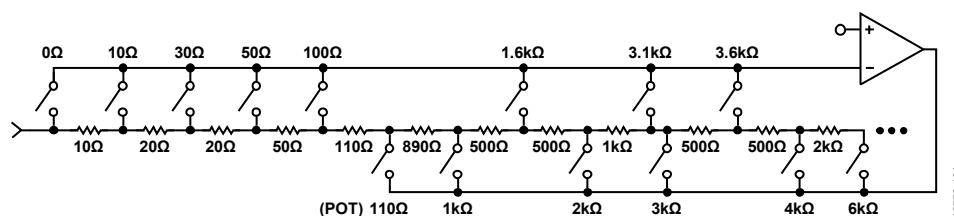
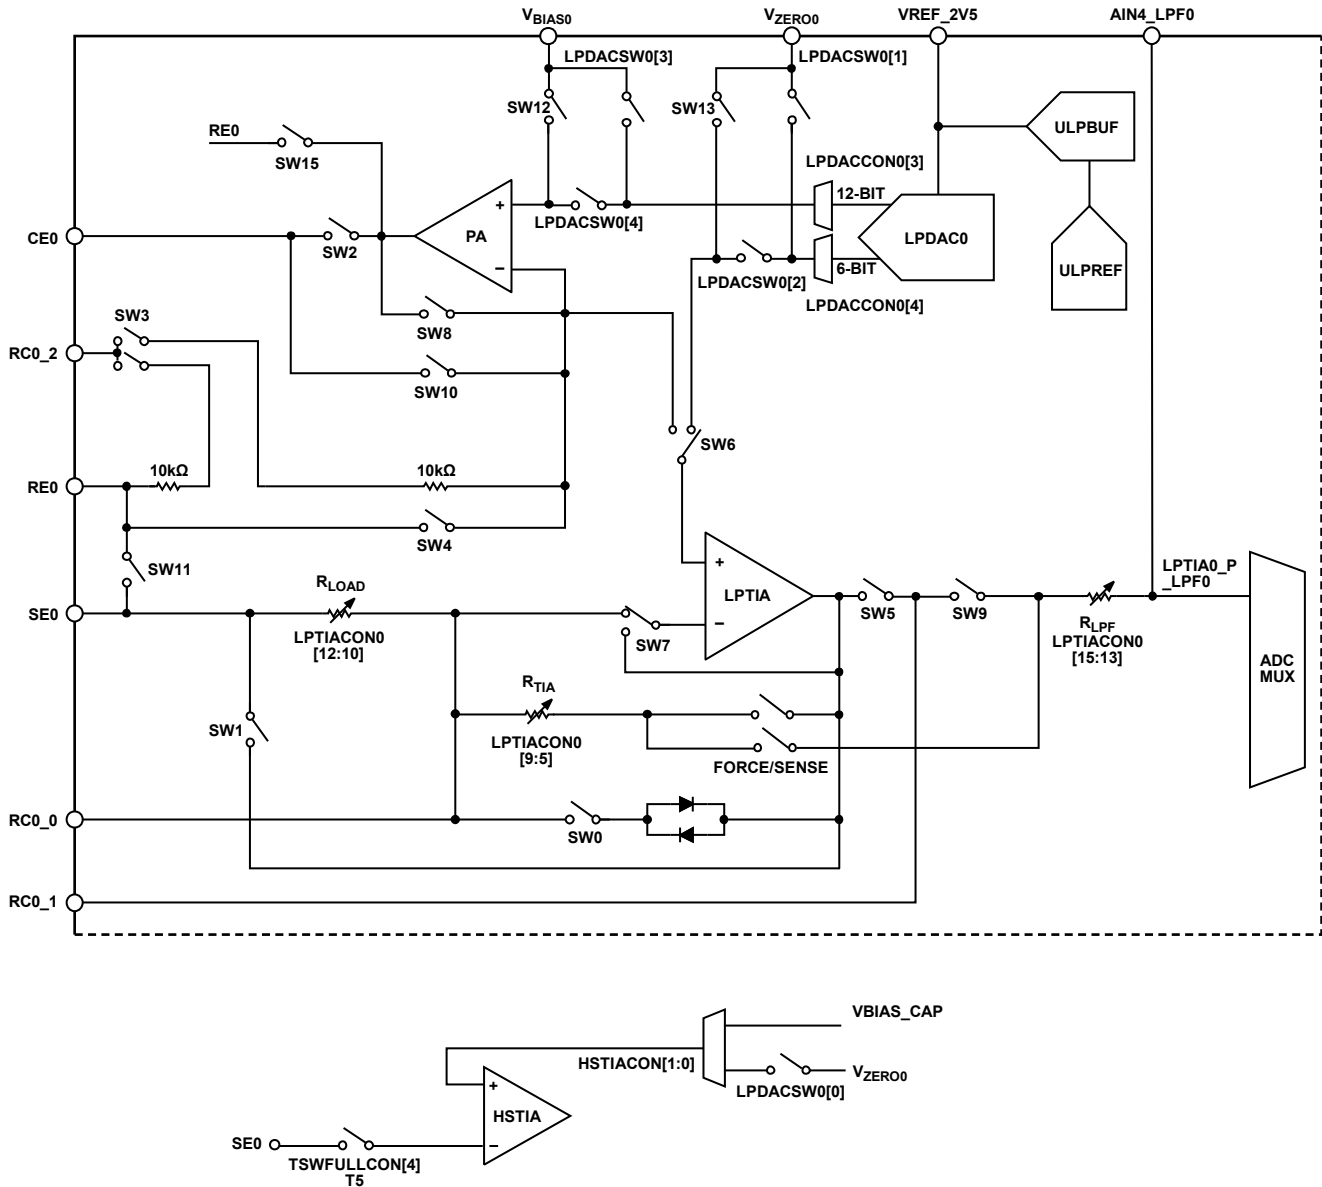

Figure 22. LPTIA R_{LOAD} and R_{GAIN} Configuration
Figure 23. Low Bandwidth Loop Switches
The output of the potentiostat can be connected to various package pins through the switch matrix (see the Programmable Switch Matrix section for details). There are a number of configurable switch options around the potentiostat to provide numerous configuration options (see Figure 23).
The potentiostat can also be used a standard buffer output to output V_{BIAS0} voltage onto CE0. To achieve this, the inverting input is connected to the output of the potentiostat by closing the SW10 switch, as shown in Figure 23.
There are a number of switches around the low power TIA circuitry. The LPTIASW0 register configures these switches. Figure 23 shows the available switches. When the TIAGAIN bits (Bits[9:5]) in the LPTIACON0 register are set, these switches are closed automatically. When these switches are closed, there is a force/sense circuit with a low-pass filter resistor (R_{LPF}) and a capacitor on the AIN4/LPF0 pin that acts as a resistor-capacitor (RC) delay circuit. The LPTIA0_P_LPF0 connects the output of the low power TIA low-pass filter to the ADC mux. Analog Devices recommends that the LPTIA0_P_LPF0 mux option be selected as the ADC input when using the low power TIA. It is recommended to connect a 100 nF capacitor between the RC0_0 pin and the RC0_1 pin to stabilize the low power TIA.
The LPTIACON0[9:5] bits select different gain resistor values for the low power TIA, labeled as R_{TIA} in Figure 23. The force and sense connections shown on the feedback path of the low power TIA are used to avoid voltage ($I \times R$) drops on the switches, which select different R_{TIA} settings for the internal R_{TIA} .
Table 21 describes the recommended switch settings in the low power potentiostat loop for various measurement types. For all measurement types, setting the switch to 1 closes the switch and setting the switch to 0 opens the switch. LPTIASW0[13:0] controls SW13 to SW0, as shown in Figure 23. Figure 22 shows the relationship between the R_{LOAD} and R_{GAIN} settings for the LPTIA. R_{LOAD} is configured by setting LPTIACON0 [12:10]. R_{GAIN} is configured by LPTIACON0[9:5]. When R_{LOAD} is large, it uses resistors from the R_{GAIN} bank, reducing the size of R_{GAIN} . See descriptions in the LPTIACON0 bit fields (Table 22 and Table 24) for details.